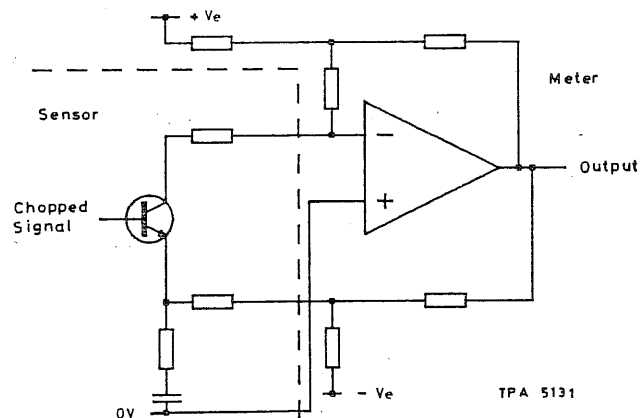

Fig. 2 Simplified diagram of amplifier
5. The amplifier is divided between the power sensor and the power meter. A simplified circuit is shown in Fig. 2.